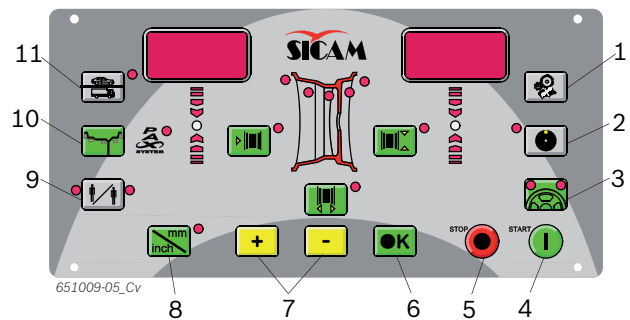

Fig. 5: Control/display panel keys
- 2. Enter the number of spokes with the keys **<->** or **<+>** (Fig. 5, Item 7).